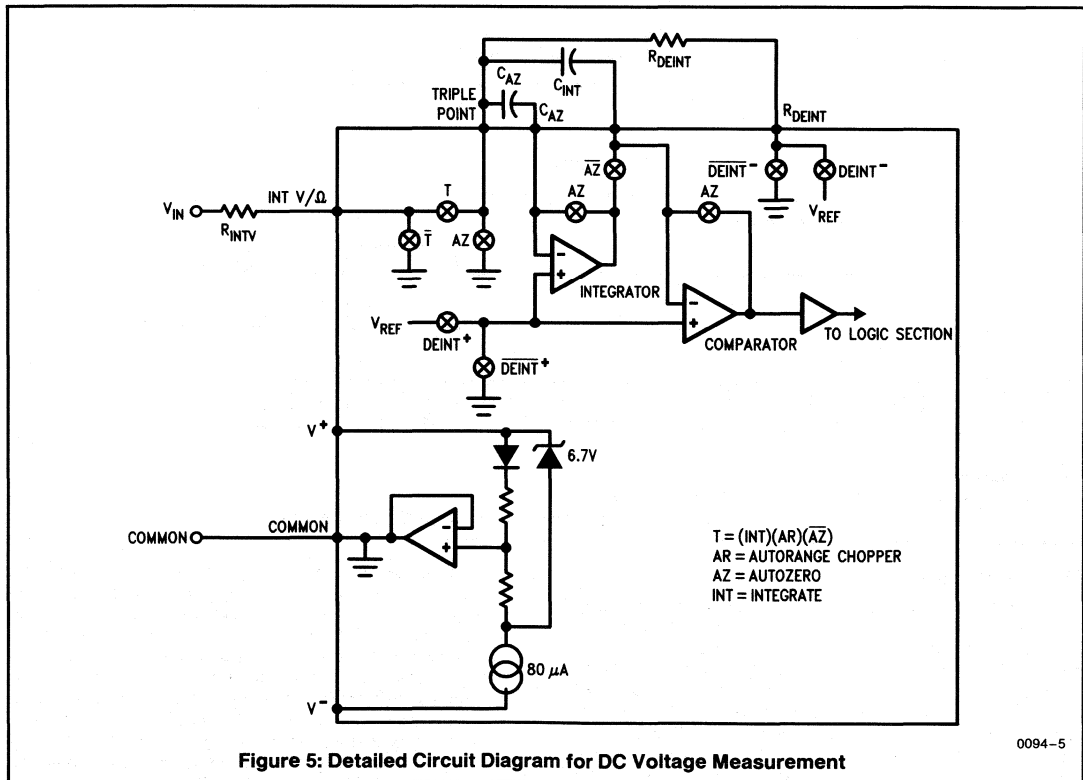
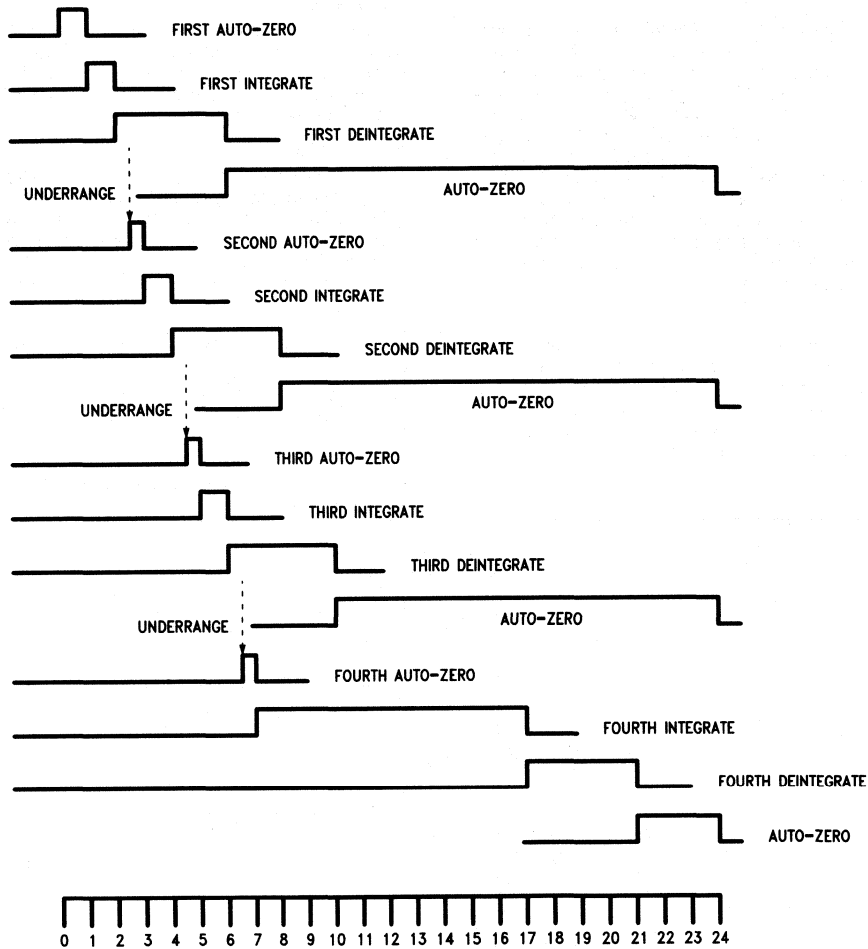

Figure 5: Detailed Circuit Diagram for DC Voltage Measurement
Figure 6: Timing Diagram for DC Voltage Measurement
Only those portions of the analog section which are used during DC voltage measurements are shown in Figure 5. As shown in the timing diagram (Figure 6), each measurement starts with an autozero (AZ) phase. During this phase, the integrator and comparator are configured as unity gain buffers and their non-inverting inputs are connected to Common. The output of the integrator, which is equal to its offset, is stored on CAZ, the autozero capacitor. Similarly, the offset of the comparator is stored in CINT. The autozero cycle equals 1000 clock cycles, which is one 60 Hz line cycle with a 120 kHz crystal, or one 50 Hz line cycle with a 100 kHz crystal.